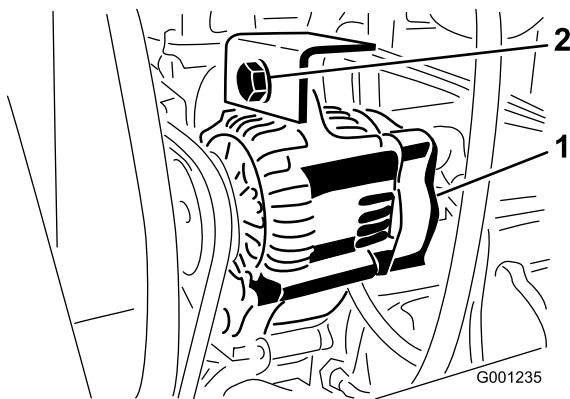

Figure 77
2. Loosen the mounting bolt for the alternator (Figure 77)
3. Increase or decrease the tension on the alternator belt and tighten the mounting bolt (Figure 77).